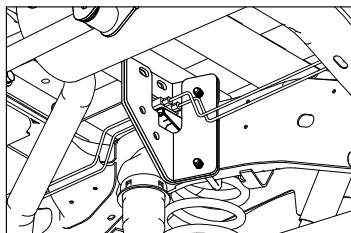
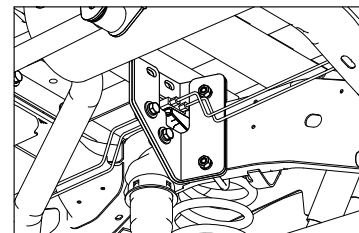

Figure E5: View of driver side plate looking from floor up at the driver side frame.
Figure E6: View of driver side plate looking from floor up at the driver side frame.
4. **Driver side plate cont.** Insert the U-bolt into the holes on the side plate just enough to hold the side plate in place. Position the second side plate over the first as shown, see Figure E5. Insert the U-bolt into the holes of the second side plate. Secure the side plates and U-bolt with lock washers and nuts. Fasten the two side plates together as shown using 1/2" x 1-1/2" long bolts, lock washers and finish nuts, see Figure E6. Attach these side plates to the front cross member and center using a 2-1/4" long bolt through the center, cross member and side plate along with a lock washer, two flat washers, and a finish nut. Finish attaching the side plates by placing a 1/2" x 1-1/2" long bolt through the cross member and the side plates adding a flat washer, lock washer, and finish nut. Hand tighten these connections.